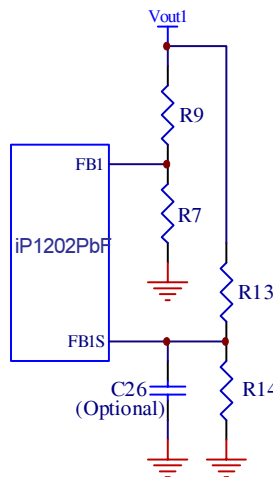

Fig. 17: Typical scheme for output voltage setting
Both outputs of the iP1202PbF will shut down if either one of the outputs experiences a voltage in the range of 115% of  $V_{OUT}$ . The overvoltage sense pins FB1s and FB2s are connected to the output through voltage dividers,  $R_{13}$  and  $R_{14}$  (Fig. 17), and the trip setpoints are programmed according to equation (1). Separate overvoltage sense pins  $FB1_s$  and  $FB2_s$  are provided to protect the power supply output if for some reason the main feedback loop is lost (for instance, loss of feedback resistors). An optional 100pF capacitor (C26) is used for delay and filtering purposes. If this redundancy is not required and if Type II control loop compensation scheme is utilized, FB1s and FB2s pins can be connected to FB1 and FB2 pins respectively.
When selecting output capacitors, it is important to consider the overshoot performance of the power supply. If the amount of capacitance is not adequate, then, when unloading the output, the magnitude of the overshoot due to stored inductor energy, and depending on the speed of the response of the control loop, can exceed the overvoltage trip threshold of the iP1202PbF and can cause undesirable shutdown of the output. The magnitude of the overshoot should be kept below 1.125VOUT. To prevent the overshoot from tripping the output a delay can be added by installing capacitor C26 as shown in Fig.17.